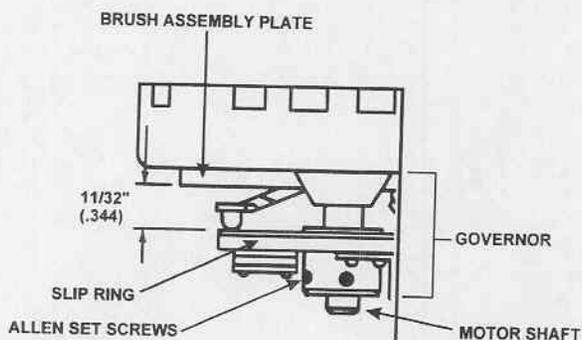

Figure 3-10. Governor brush assembly clearance.
- (10) Turn the centrifuge over to rest on its cover.
- (11) Remove the slotted screw fastening the nameplate assembly temporarily into place.
- (12) Reconnect the electrical terminal connector to the timer "L2" terminal that also connects with the motor.
- (13) Strip  $\frac{3}{8}$ -inch insulation from the two black wires connecting the motor to the brake switch.
- (14) Connect the two black wires using an electrical terminal connector.
- (15) Bundle the electrical wires together and refasten them with a plastic electrical cable tie.
- (16) Position the nameplate assembly into place and reinstall the four slotted screws.
(17) Install a new brush assembly into place and fasten it to the motor housing by reinstalling the two hex nuts.
(18) Reconnect the two electrical terminal connectors while following the previously recorded wire colors and connector locations.
(19) Reinstall the governor onto the motor shaft and slightly tighten the Allen set screws.
(20) Check for a  $1\frac{1}{32}$ -inch clearance between the lower brush assembly plate and the governor slip rings (fig 3-10).